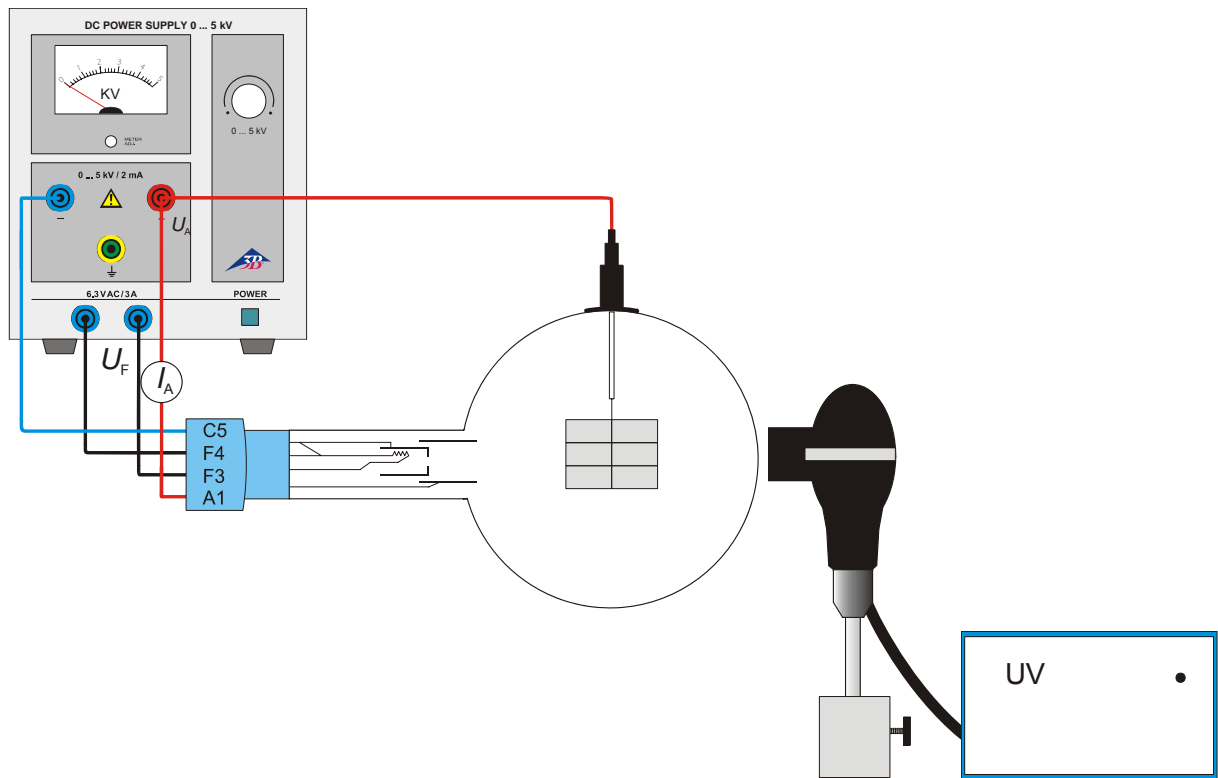

Fig. 2 Excitation by ultraviolet light
- Set up the luminescence tube as shown in fig.2.